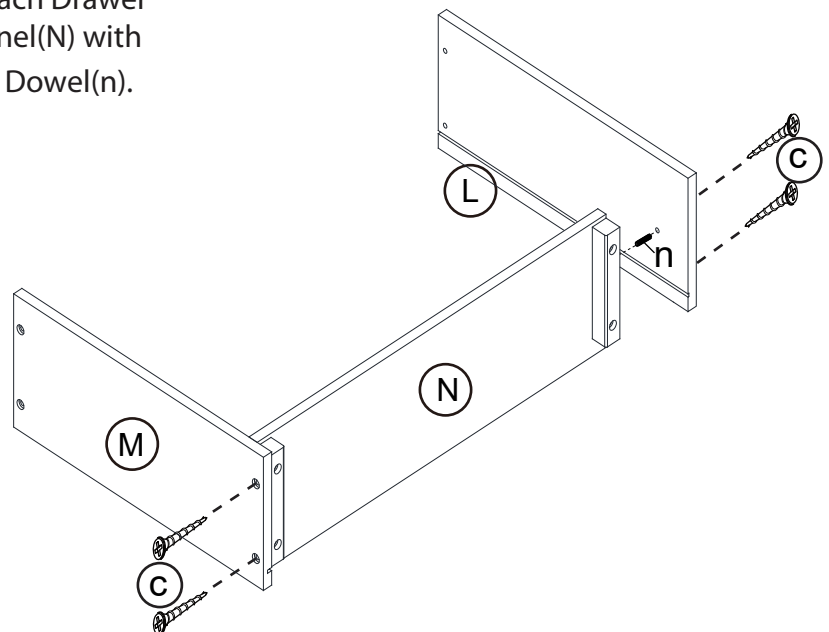

Figure 5
Working on a padded flat surface, attach Drawer Sides Panel (L & M) to Drawer Back Panel(N) with 4pcs Wood screw(c) and 2 pcs Wood Dowel(n). As shown in **Figure 5**.